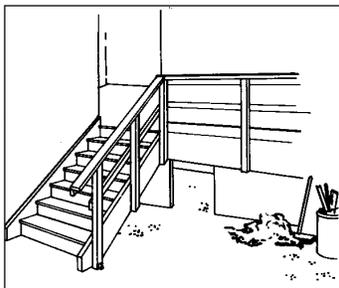

Figure 8
- work and travel areas kept tidy, well-lit, and ventilated (Figure 8)
Keep stairs and landings clear and well-lit. Work and travel areas kept tidy, well-lit, and ventilated (Figure 8)